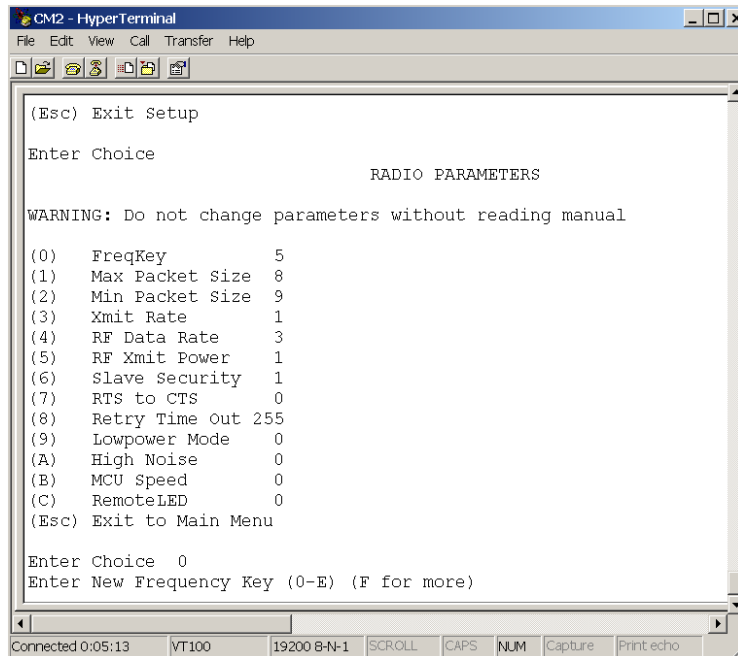

Figure 2
Then select (0) FreqKey. See Figure 2.